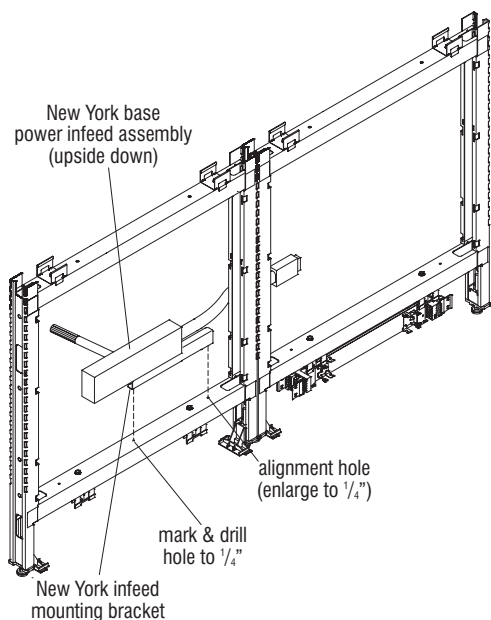

Figure 14 - New York Base Infeed
1. One mounting hole must be marked then drilled, and another must be enlarged for mounting of the New York infeed mounting bracket to the lower horizontal frame rail. To create mounting holes, first position the New York base power infeed assembly upside down on top of the lower horizontal rail as illustrated and align the mounting hole of the bracket to the pre-drilled hole closest the frame side rail. Be sure the infeed assembly is centered onto the horizontal rail, then use the New York infeed mounting bracket as a guide and mark the second mounting hole to the lower horizontal rail. Punch to center the hole location, then drill a hole  $1/4$ " diameter. At the first, alignment hole location, drill that  $11/64$ " hole out to  $1/4$ " (Figure 14).